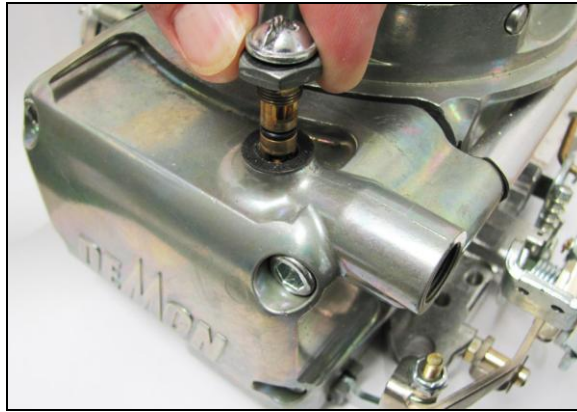

Figure 4
3. After removing the lock screw, the fuel valve & seat assembly may be rotated counter-clockwise with a 5/8-inch wrench. Once the threads are no longer engaged with the bowl threads, the entire assembly can be extracted (Fig. 4). O-rings may provide some resistance which can be easily overcome by pulling straight upward.
8. The idle mixture screws should also be removed from the sides of the metering block (Fig. 4). There is a small cork gasket surrounding each of the screws, and it should also be pulled out of the recess in the block. The Rebuild Kit comes with rubber o-rings to replace the cork gaskets for a more positive seal. Some HOLLEY® carbs contain a "reverse-idle" system and a tag is affixed to the block showing that the mixture is made leaner by rotating the screws counter-clockwise. This tag should be removed and reapplied after cleaning.